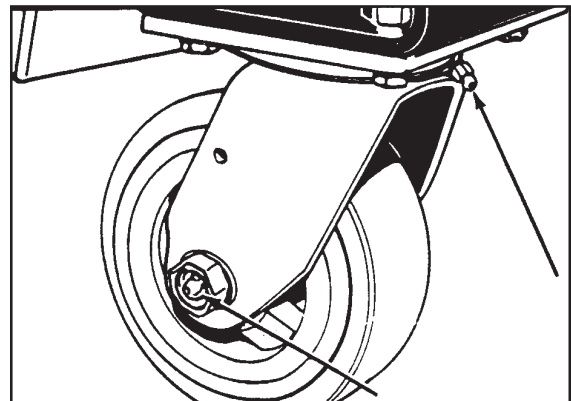

Figure 25
5. Use a grease gun to lubricate the drive wheel and the casters. See figure 25.